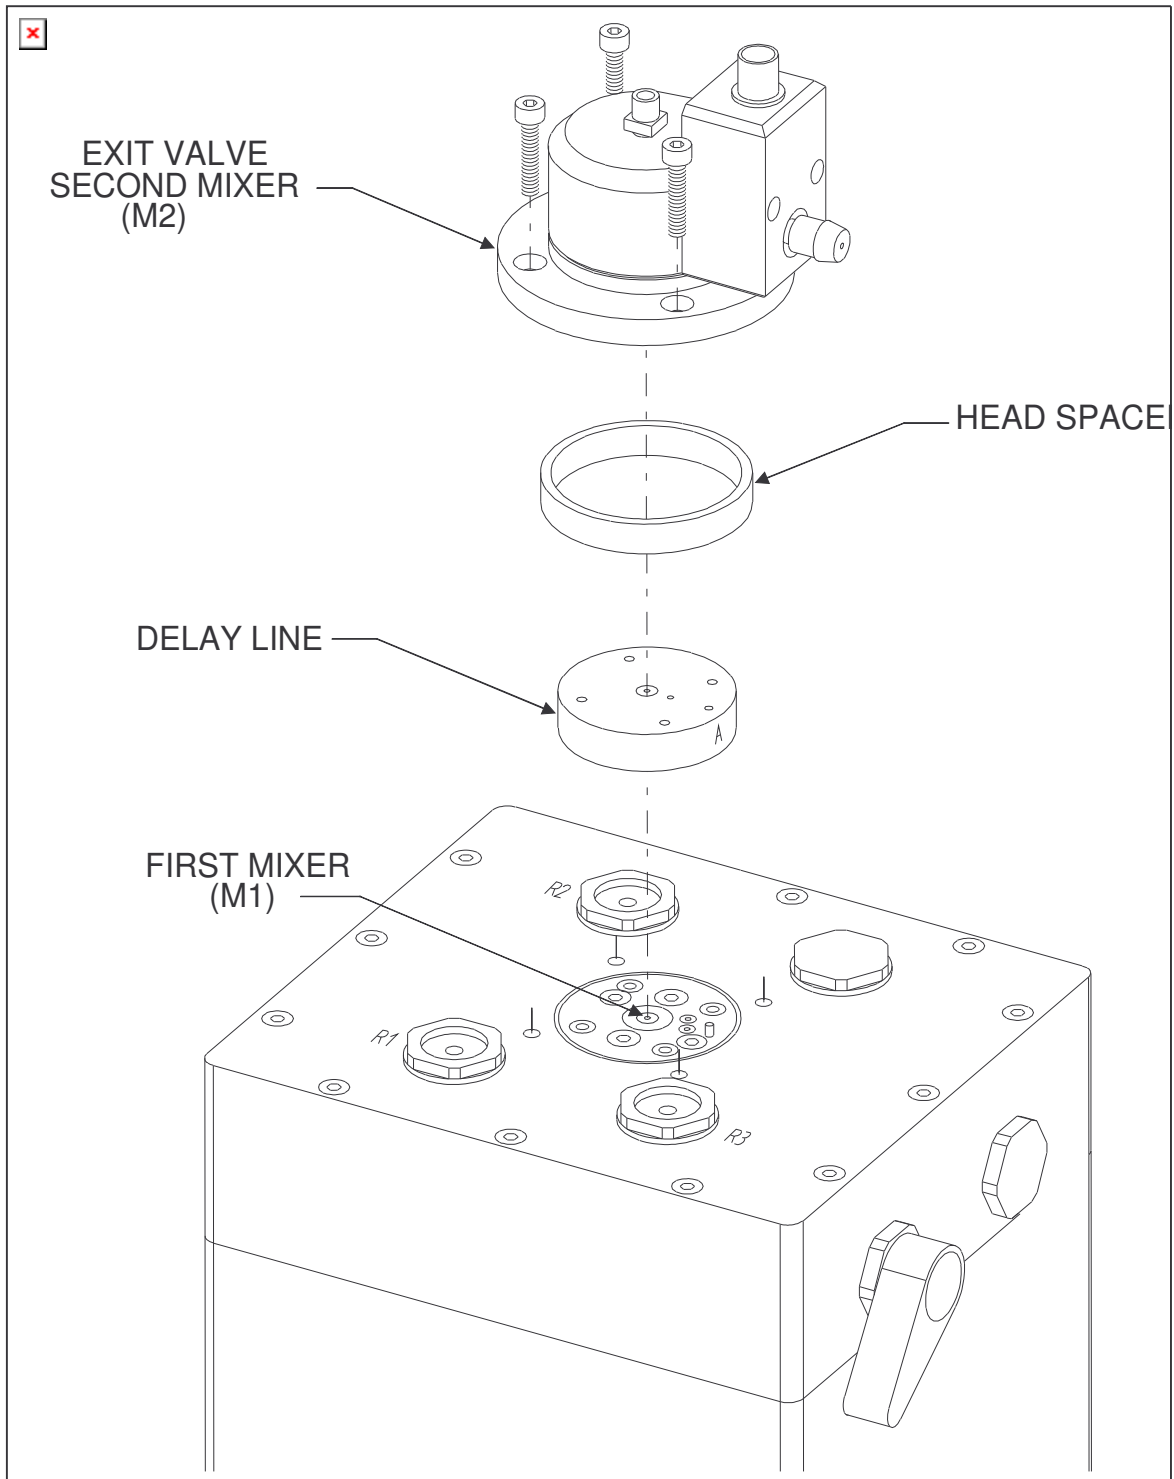

Figure 80 – SFM-300: Installation of Exit Valve and Delay Lines
**SFM-300** - The exit valve and delay line are installed as shown in Figure 80.
NONE	Only a delay line is installed between the SFM body and the exit valve and the SFM-400 functions as an SFM-300 (Figure 80). Syringe 3 is blocked by the delay line and only syringes 1, 2, and 4 are useable. In this case, syringe 3 does not need to be filled.